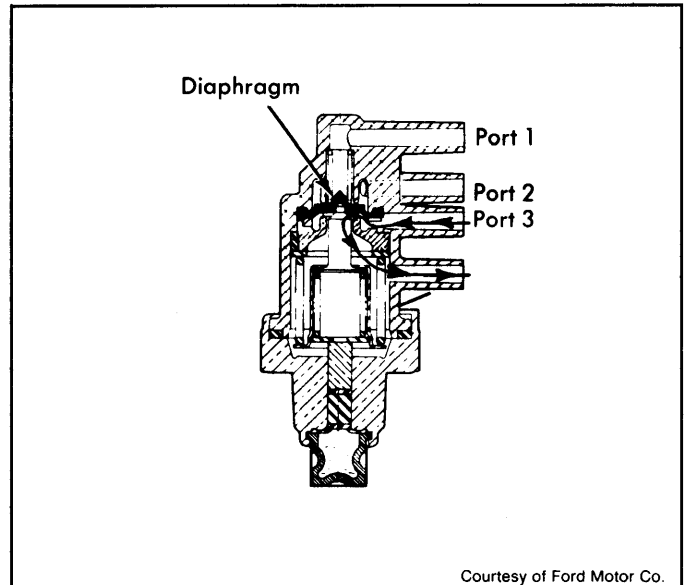

Fig. 3: Sectional View of 4-Port PVS
4-Port PVS - On a 4-port PVS valve, the top 2 ports are open and the bottom 2 are closed when coolant temperature is below PVS temperature range. The 2 bottom ports are open and the 2 top ports are closed when coolant temperature is above PVS temperature range. See Fig. 3.
2) Using a vacuum gauge and external vacuum source, check that vacuum flows through ports 1 and 2. No vacuum should flow through ports 3 or 4. See Fig. 3.